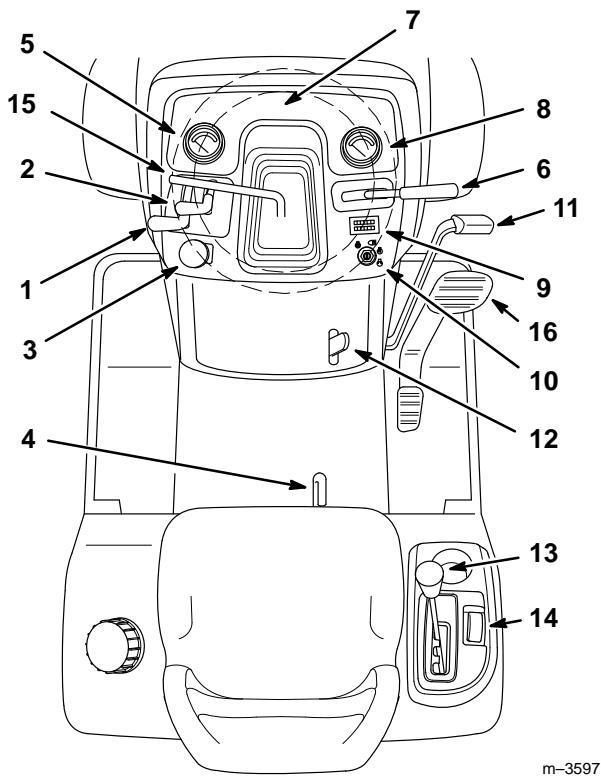

Figure 10
Become familiar with all the controls (Fig. 10) before you start the engine and operate the machine.
1. Push the brake pedal (Fig. 10) down and hold it in the depressed position.
2. Lift the parking brake lever (Fig. 10) up and gradually take your foot off the brake pedal. The brake pedal should stay in the depressed (locked) position.
1. Push down on the brake pedal (Fig. 10). The parking brake lever should release.